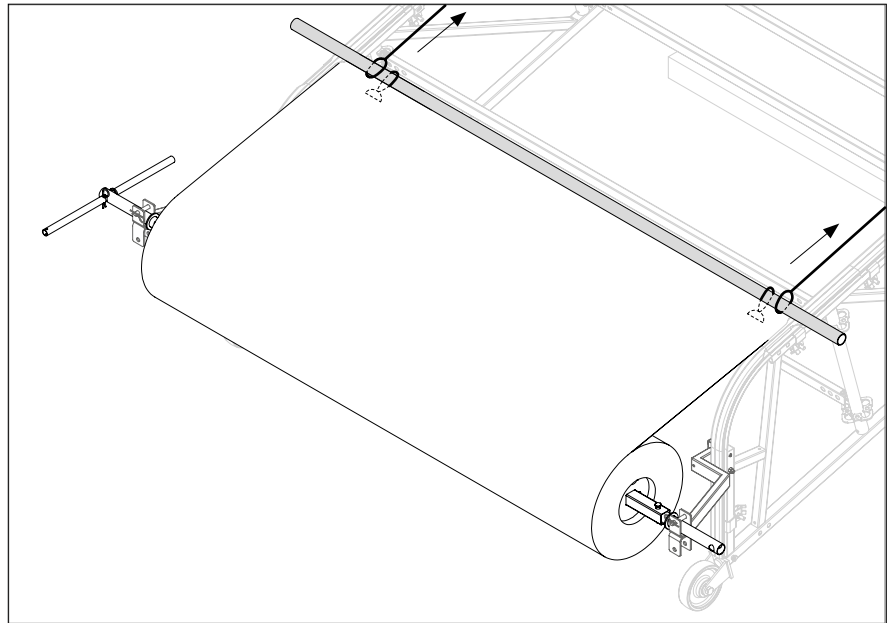

Fig. A5.03
- Keep the keder tarpaulin tensioned on the roller, thus allowing the tarpaulin to be pulled straight. (Fig. A5.03)